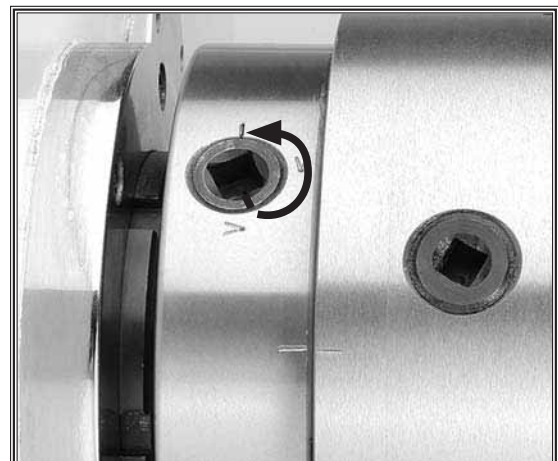

Figure 22. Disengaging the camlock.
3. Find the chuck timing marks (Figure 22). If no marks exist, get a chisel and hammer and lightly tap-in your own marks.
4. Loosen the six camlocks by turning the chuck key counterclockwise $\frac{1}{3}$ -turn or until the mark on the camlock aligns with the mark on the spindle nose (Figure 22).